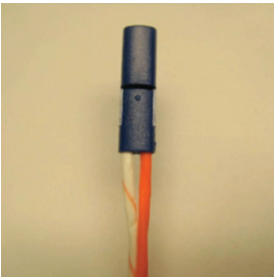

Figure 34: Inserting contacts into insulators
- 11. Using a blue insulator from the connector kit, insert the contact into an insulator with the solid colored wire in the hole on the right (Figure 34). Be sure to maintain a twist in each pair while inserting it into the insulator.